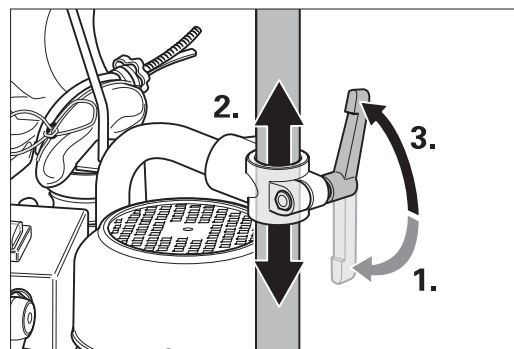
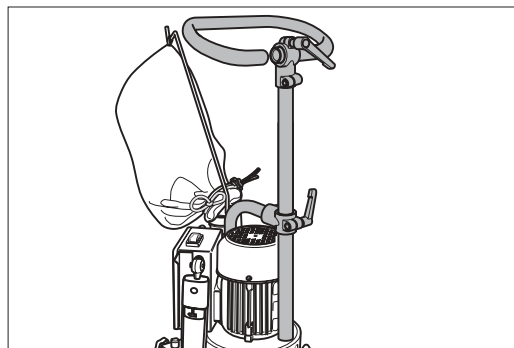

Fig. 11: Undoing the clamping lever (1.), sliding the extension to suit your height (2.) and tightening the clamping lever (3.).
Fig. 12: The extension can also be pushed all the way down to the fan housing.
- 3 To adjust the handle height, undo the clamping lever at the front end of the pipe bend (Fig. 11, 1.).
- 4 Slide the extension upward or downward (Fig. 11, 2.). At the bottom, it is also allowed to rest on the fan housing (Fig. 12).
- 5 Tighten the clamping lever firmly again (Fig. 11, 3.).